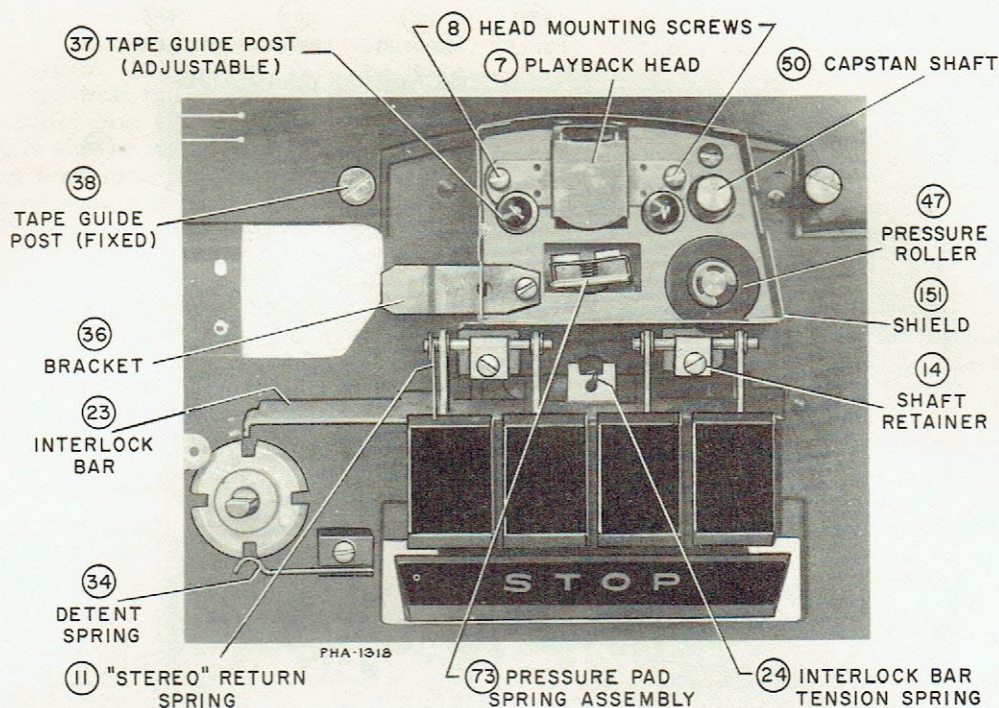

Figure 6—Top View of Player Panel (Front Center)
When either "STEREO" or "SINGLE" pushbutton is depressed, a cam on the pushbutton indirectly forces pressure roller arm (75) to the rear; pressure roller (47) will then press tape firmly against the capstan (50). At the same time, the pressure pad (73) will press the tape lightly against the head (7). Refer to figures 6 and 7.